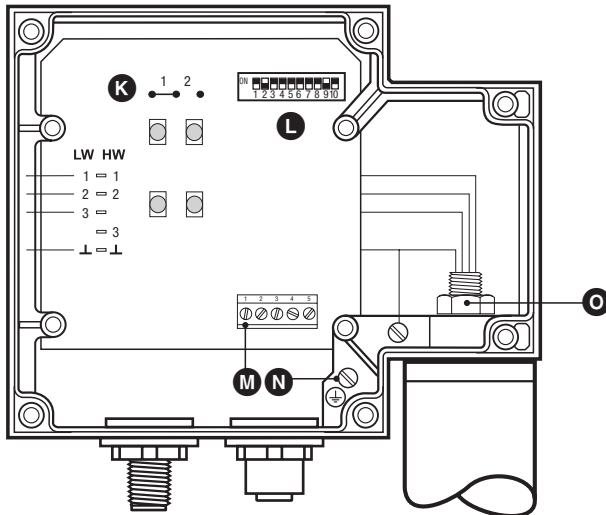

Fig. 14
2. Slacken plug  with 17 mm open-end spanner but do not remove. **Fig. 14**